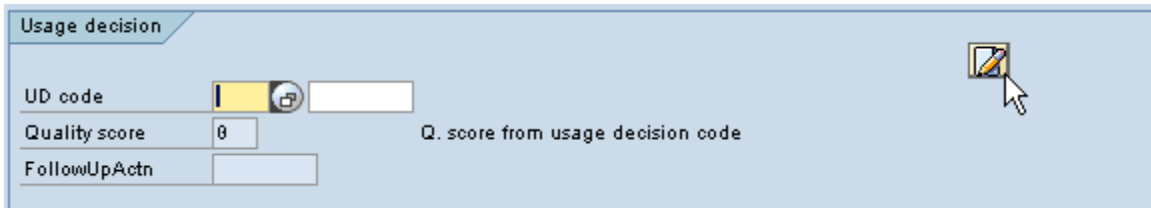

Fig. 19
8.10. Click on the “Create Long Text for UD” icon in the “Usage decision” section when rejecting the Inspection Lot (Fig. 19)